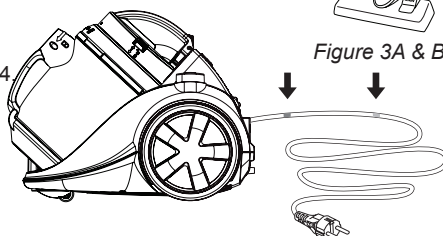

Figure 4
5. The power cord has a yellow and red mark, see Figure 4. Pull out the cord to the yellow mark.